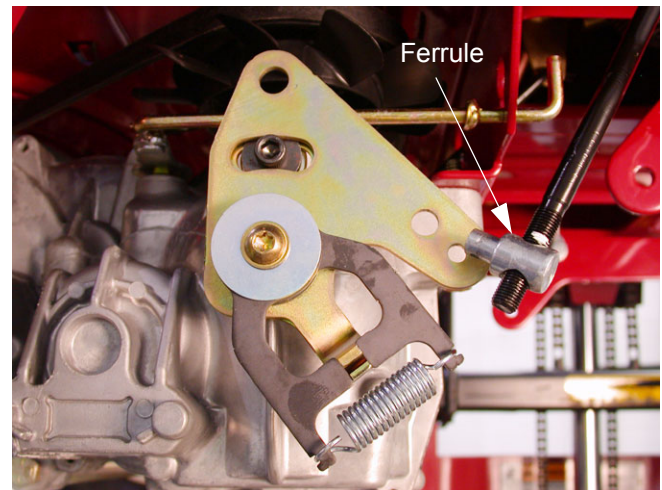

Figure 10.3
- 10.3. Disconnect the ferrule at the EZT end of each lap bar control rod from the neutral return assembly on each of the EZTs. The ferrules are secured to the neutral return assemblies with hairpin clips. See Figure 10.3.